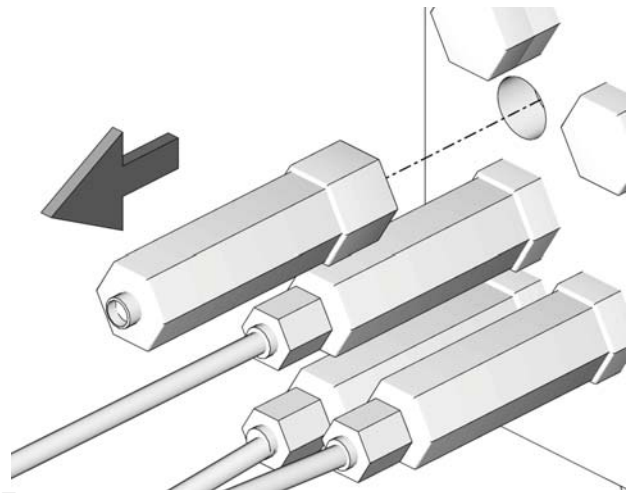

FIG. 10
3. Use a 5/8" deep well socket to remove meter from manifold (FIG. 10).